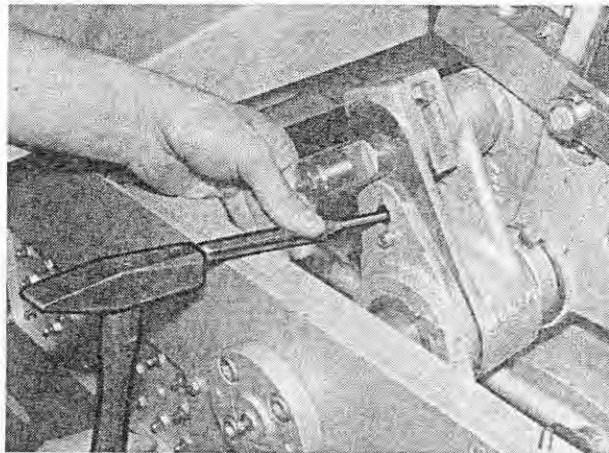

Fig. 258
3. Crank the machine by hand (refer to section 7.1) until the front hole is aligned with the rear one or rear pin shorn off. If necessary, start the rear part of the pin (Figure 258).